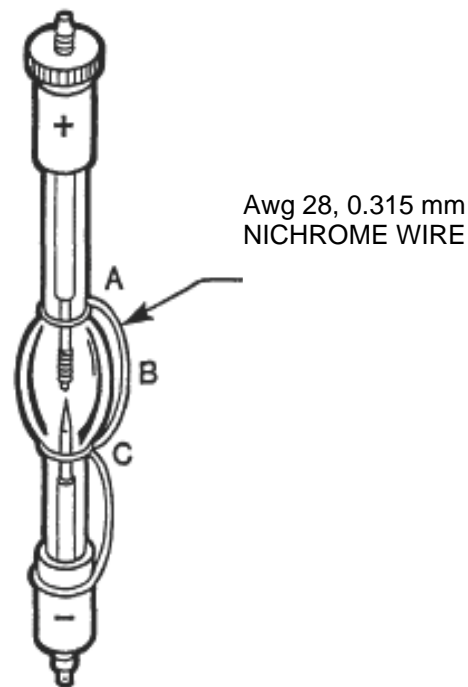

Figure 14: Installing trigger wire on Xe lamp.
- b. Wearing finger cots or gloves loop the wire around the top of the lamp envelope, (A) in Figure 14, twisting the end securely.
- c. Bring the wire down the side of the envelope, (B), nearest to the vacuum "Fill/breakoff" mark. Keep the wire snug against the glass.